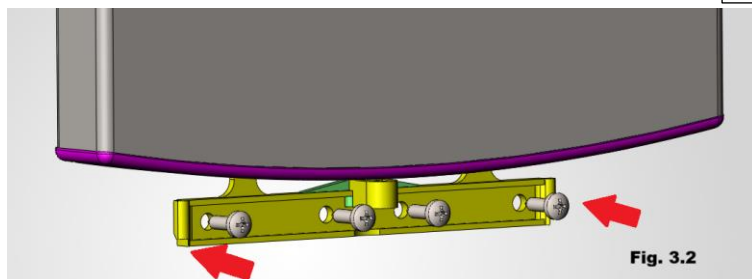

Fig. 3.2 — Fastening of the lower bracket to the wall (check vertical alignment using a spirit level)
4. With the COP in position, check that it is vertically aligned using a spirit level (Fig. 3.2).
5. Secure the lower bracket (Part. A) to the wall using suitable anchoring systems (Fig. 3.2).